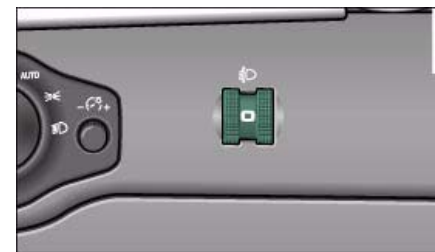

Fig. 53 Headlight range control
- Turn the thumbwheel  ⇒ *page 56, fig. 53* to the appropriate setting.